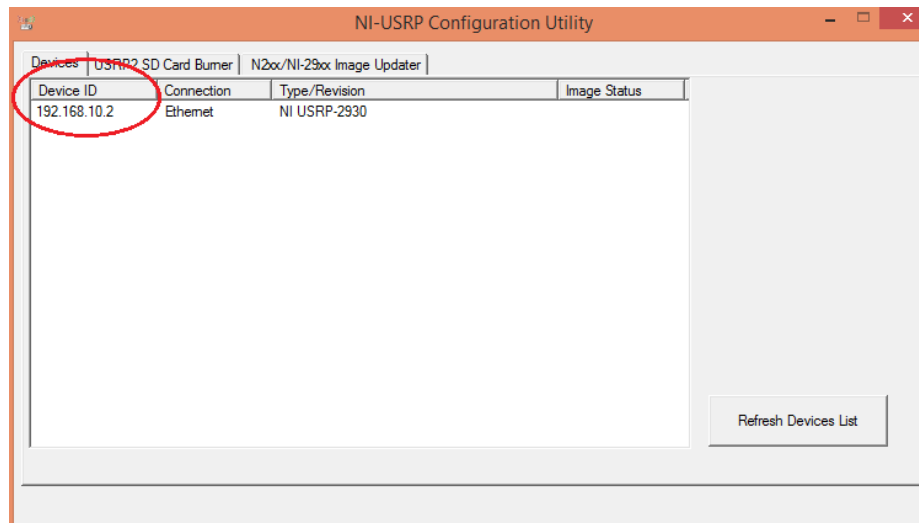

Figure 2.6: The NI USRP Configuration Utility software
3. Launch the NI USRP Configuration Utility³ to find the Device Name for your NI USRP device. See Fig. 2.6